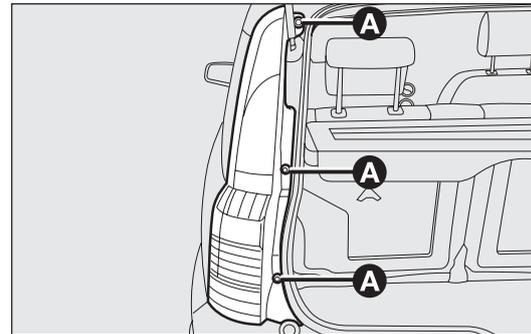

fig. 152
- loosen the three screws A-fig. 152 from their housings, pull gently outwards until releasing the whole headlight from the three clips (press-fit), then release the connector;